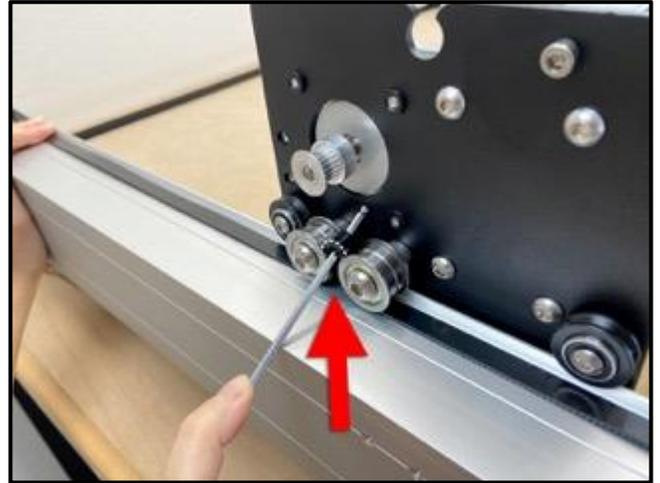

Figure 5-14
5. Slide the 3mm hex key under the belt, between the two idlers, and use it as a lever against the X-rail to push a loop of belt up between the two idlers as shown in *Figure 5-14*.